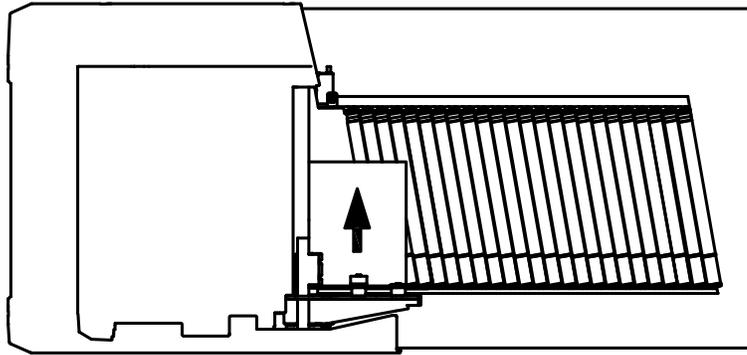

FIGURE 26: Clearing a jam
- 2 Push the document away from you, in the direction of the arrow shown in Figure 26.